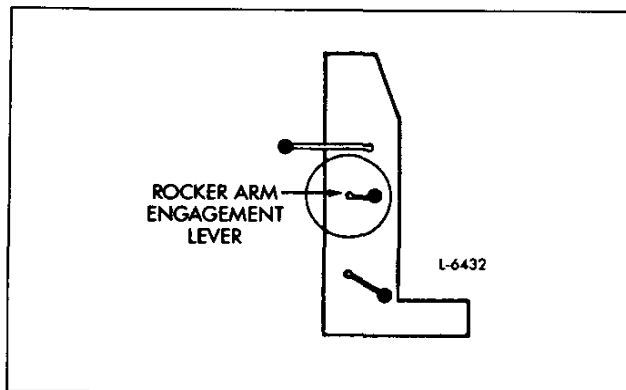

Fig. 4 - Position of Rocker Arm Engagement Lever
3. Move the rocker arm engagement lever to the forward detent (Fig. 4).